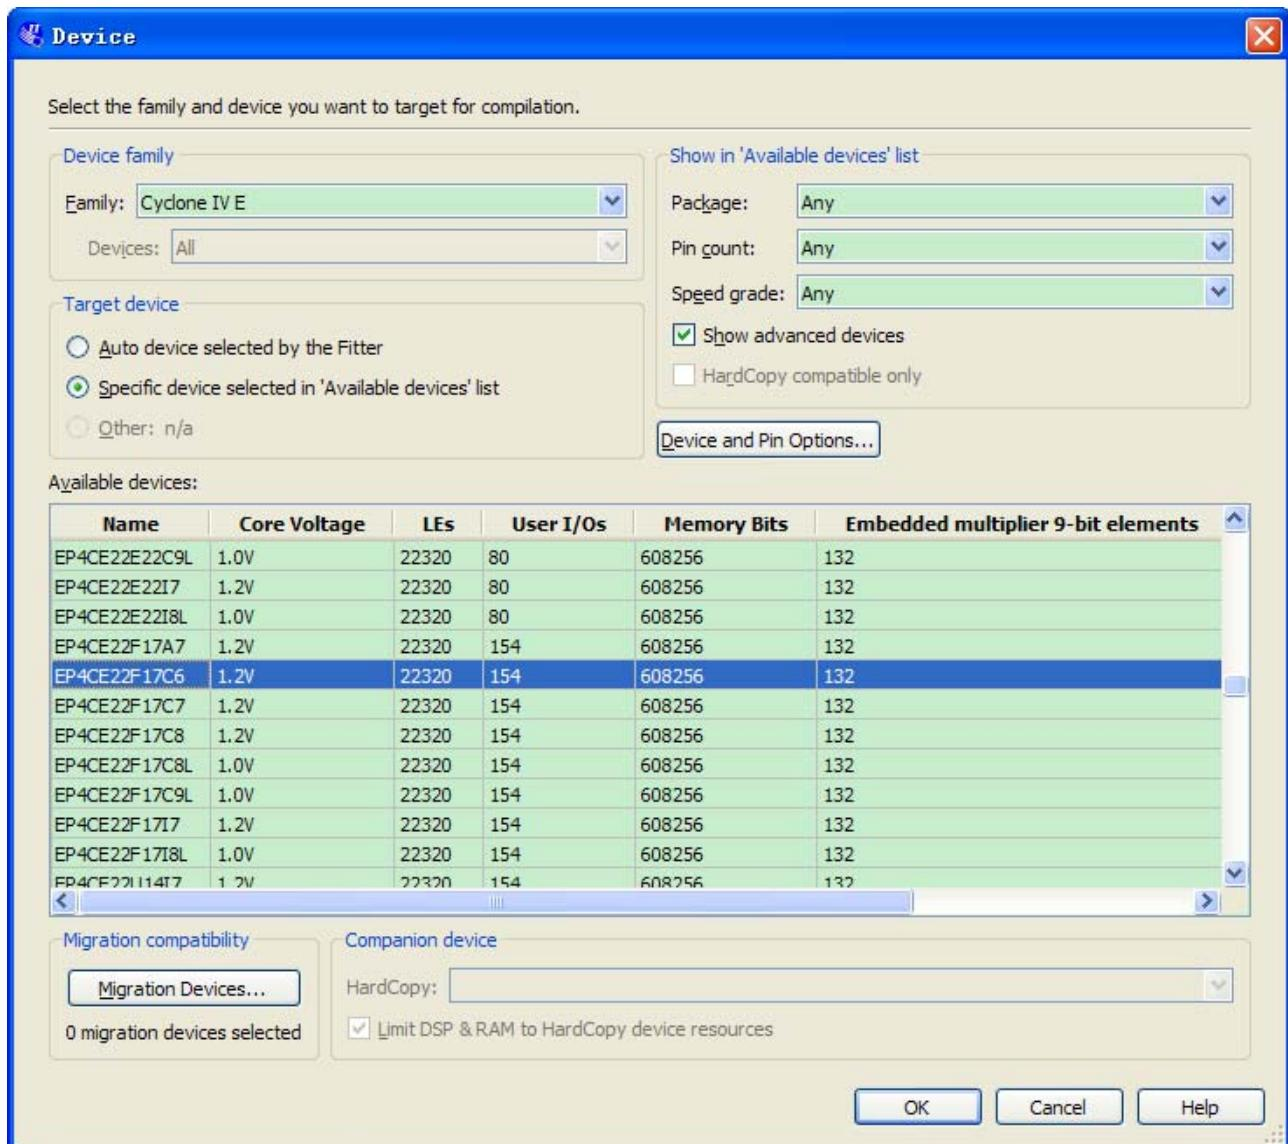

Figure 6-49 Device and Options
3. If other LEDs emit faintness light, select **Assignments > Device**. Click **Device and Options**. See **Figure 6-49**.